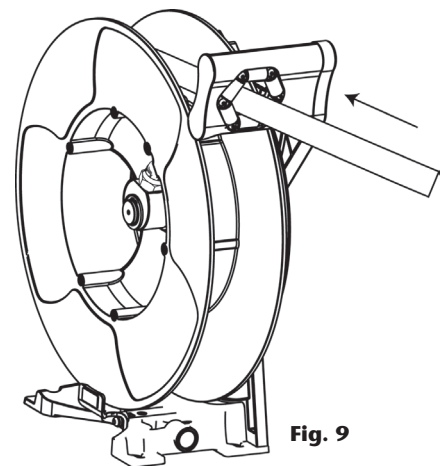

Fig. 9
5. Pull the hose hard enough to release the latch, and slowly allow the hose to retract (fig. 9).